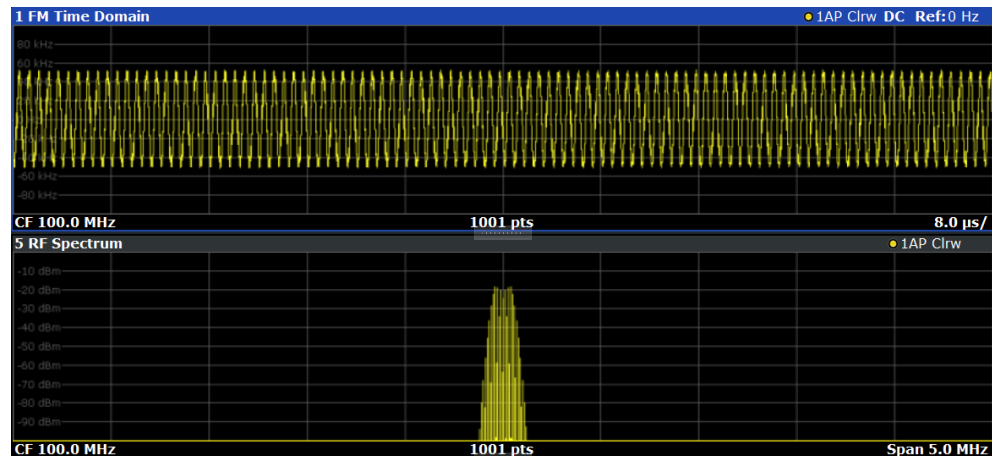

Figure 8-4: RF spectrum of FM signal with default demodulation bandwidth = 5 MHz
8. As you can see in Figure 8-4, the default demodulation bandwidth of 5 MHz is much too large - the actual signal takes up only a small part of the displayed range. That means that any noise or additional signals apart from the FM signal of interest may be included in the measured results. Select "Demod BW" and reduce the value to 200 kHz.